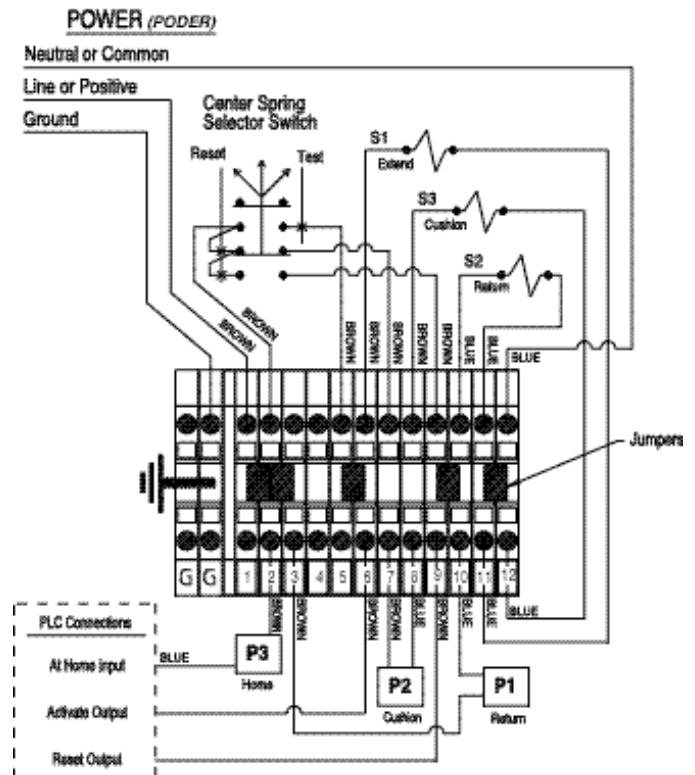

FIGURE 9B
2... The pusher may be re-wired to bypass P-3, which can then be used to signal a programmable controller or other device when the ram is fully retracted. (See Figure 9B).